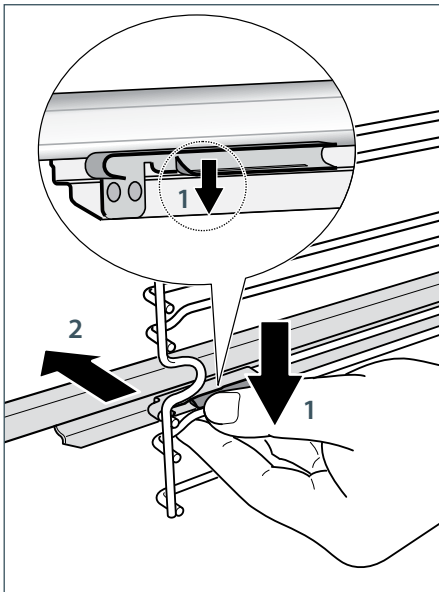

Fig.56 Removing the sliding shelf supports
- 3 Find the safety locks. These are the tabs that clip over the wire of the side rack (arrow 1 in Fig. 56).
- 4 Pull the safety locks away from the wire to release the wire (arrow 2 in Fig. 56).